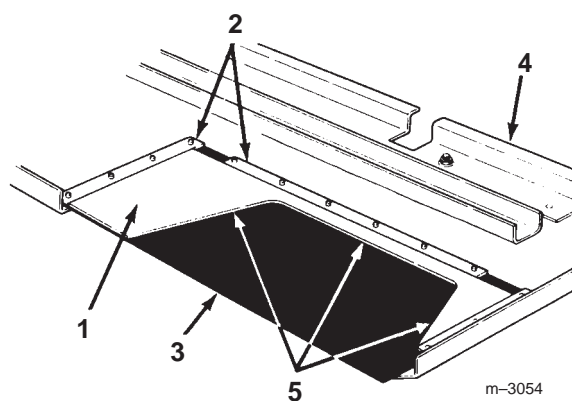

Figure 3
1. Place the appropriate template against the metal retaining strips on the outside of the rubber extension (Fig. 3).
2. Cut the rubber extension along the bottom edge of the template (Fig. 3).